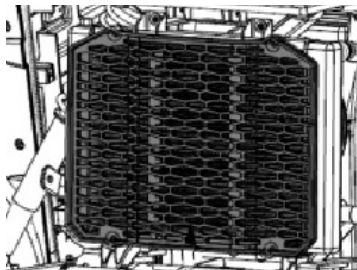

Figure 23
3. Detach the screen and clean the radiator and radiator screen and radiator fins of all debris (Figure 23).